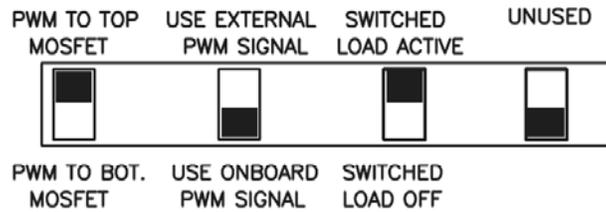

Figure 7.2: Switch positions for switched load.
- Change the switch positions of the switch bank as shown in Fig. 7.2.